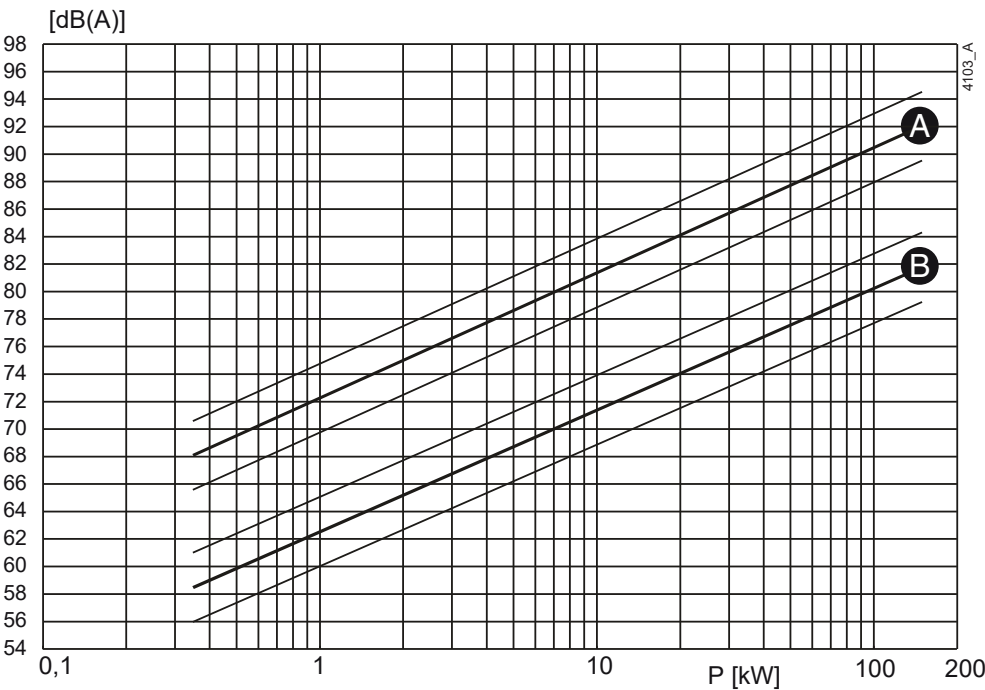
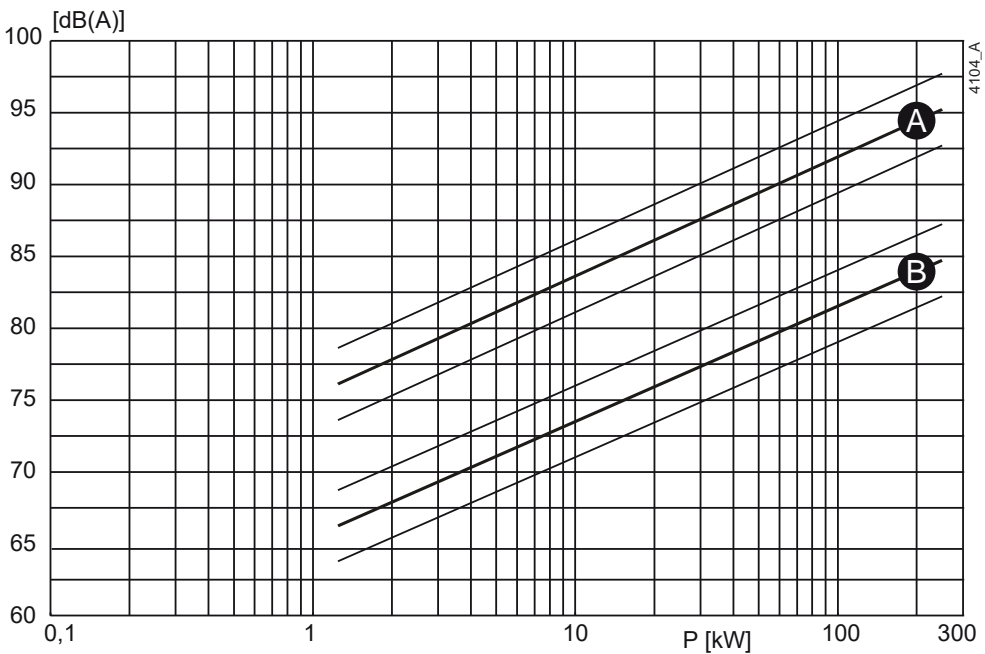

Figure 53: Noise level as function of pump power [kW] at  $1450 \text{ min}^{-1}$
Figure 54: Noise level as function of pump power [kW] at  $2900 \text{ min}^{-1}$
- 1 Determine the noise level ( $L_1$ ) of the pump, see figure 53 or figure 54.